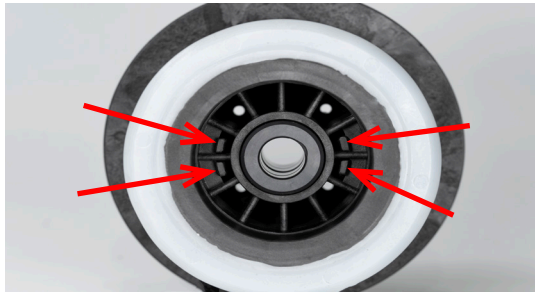

figure 29
2. From the drive end locate the snap-fit prongs on either side of the bushing. See figure 29.